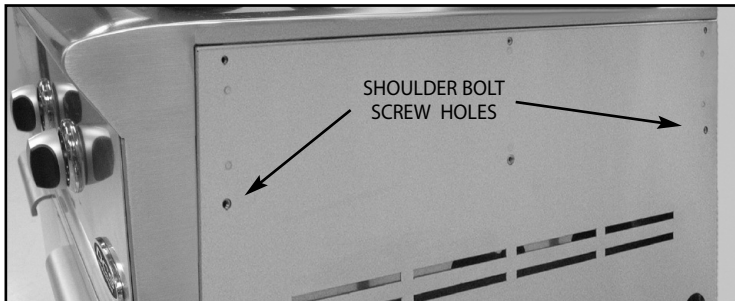

Fig. 44
1. Screw shoulder bolts (2) into the bottom screw holes on the side of the cart only (Fig. 44 and 45). Tighten with 5/32 Allen wrench.